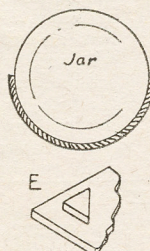

Fig. 3—Shaping the curve
It is advisable to warm the jar first, in case the hot Perspex cracks it. Get a friend to hold the jar bottom upwards on the table, then press the Perspex round it, as in Fig. 3. Before
As Perspex is rather expensive, an economy in material can be effected here by cutting four angular pieces of the Perspex to the shape, C. Cement one at each corner of the lid, underneath, as at (E). Fig. 3, in place of the smaller rectangle of the lid that is suggested above, to make the rim. The pieces can be quite small, say $\frac{1}{2}$ in. each way, and will act efficiently, but they must be accurately positioned for the lid to fit correctly on.